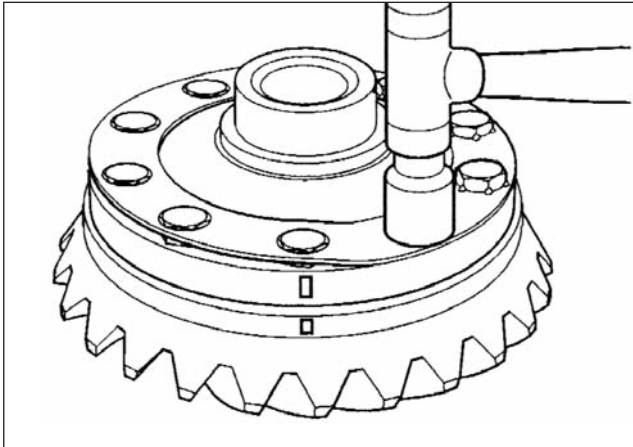

Fig. 2.71
1. Place a new locking plate on the ring gear carrier and set in position flat against the differential half casing by using a cylindrical drift to hammer down around the ring gear fixing bolts. (Fig. 2.71) (Tool no. 48180910)